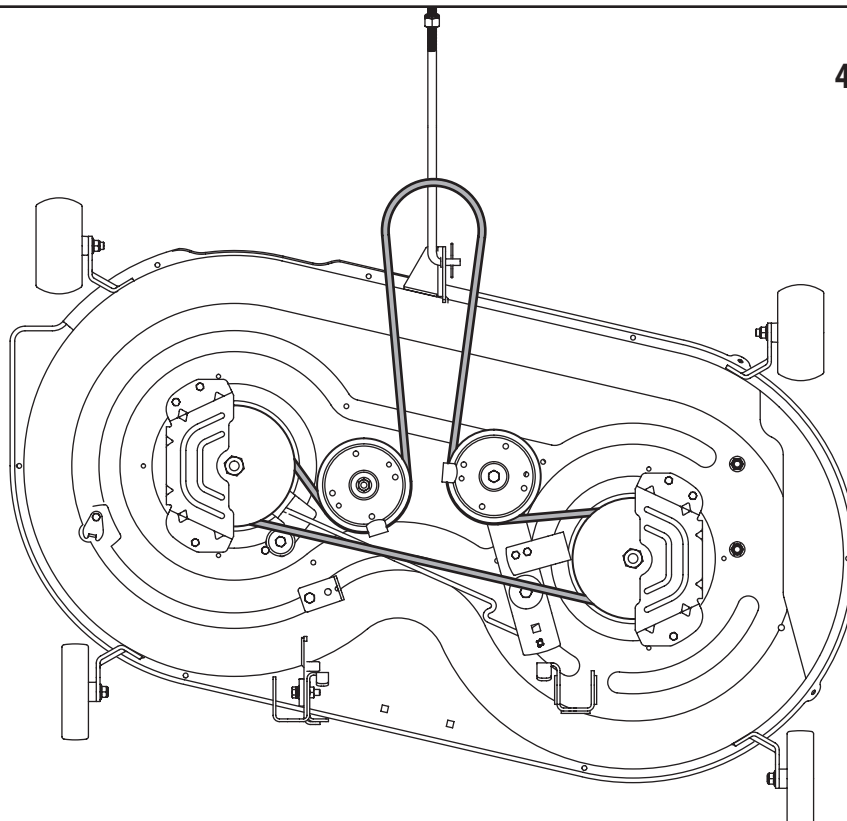

Figure 7-11
9. Re-install the deck, making sure the belt remains routed around the pulleys as instructed. See Fig. 7-11.